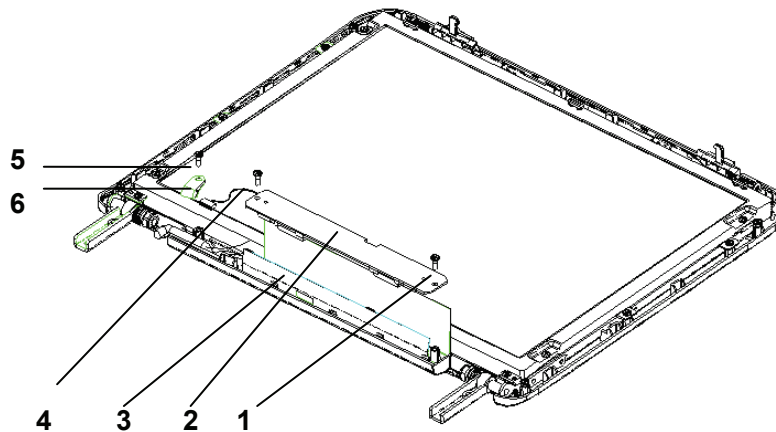

Figure 4-7 Removing Inverter Board
- 6) As shown in Figure 4-7, open the seal cover for the shielding leaf of the inverter board, remove the two screws fixing the inverter board of LCD display, disconnect the power cord of LCD display backlight, and take out the inverter board